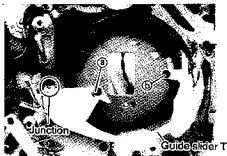

Fig. 3-16-1
- 4 Slide the takeup tape guide assembly in the direction of arrow (Fig. 3-16-1) and remove it from the guide slider T.
- 2 Attach the takeup tape guide assembly to the guide slider T by sliding the guide in the direction opposite to the arrow shown in Fig. 3-16-1.
- 3 Attach the junction of guide sliders T and R as shown in Fig. 3-16-1. Secure the guide slider T with screws **a** and **b**.